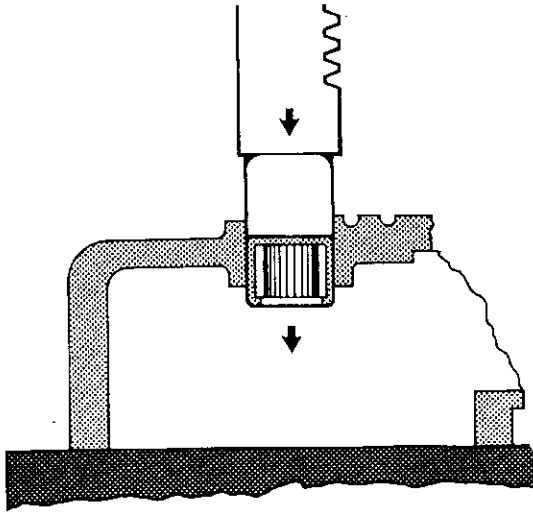

Figure 3.13
24. Support the gear case (4) as shown in Figure 3.13 and press out the gear case bearing (7).